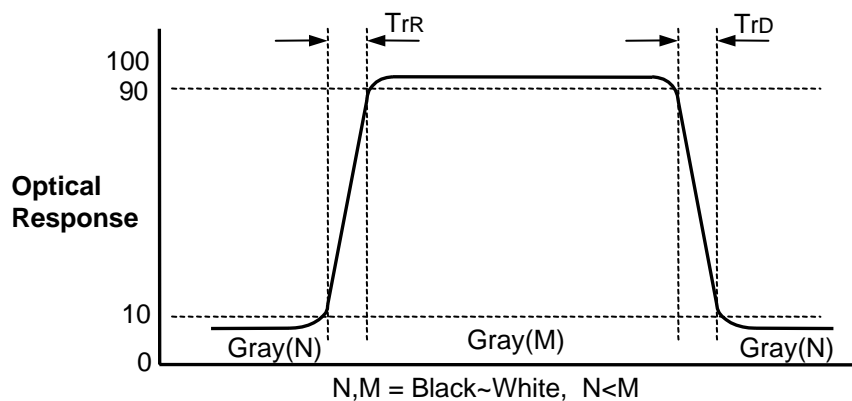

FIG. 3 Response Time
4. Response time is the time required for the display to transit from G(N) to G(M) (Rise Time,  $Tr_R$ ) and from G(M) to G(N) (Decay Time,  $Tr_D$ ). For additional information see the FIG. 3. (N<M)